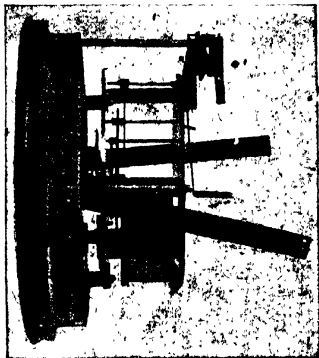

FIG. 57 — French Timepiece Movement.
**Eight-day French Timepieces.**—Fig. 57 shows the movement of one of these as fitted with the ordinary black marble or wood case. The method of holding in the case is peculiar to these clocks and consists of two straps of brass, shown in the photo. The movement is put into an opening in the front of the case and two long screws are passed through a metal rim forming the case back and draw the side straps up tight. This method permits the movement to be turned round slightly to set accurately in beat, and then screwed tight.
The pendulum suspension arrangement, shown well in Fig. 57, should all be taken apart, cleaned and polished. This is an ingenious arrangement, the regulation being accomplished from the dial of the clock with a watch key. By means of two small gear wheels a screw is revolved which shortens or lengthens the acting part of the pendulum suspension spring. This is designed so that approximately one complete turn of the square over the Fig. 12 on the dial makes a difference in time of one minute per day, and in regulating these clocks it is useful to remember this.
**Other kinds of French Pendulum Clocks.**—Circular movements similar to Fig. 57 are sometimes fitted into brass drum cases about 4 in. diameter and provided with little short pendulums of about 3 in. in length, fixed direct to the pallet arbors and having no crutches or suspension springs. These are known as "tic-tacs" and are a very unsatisfactory kind of clock, fortunately no longer made and passing rapidly out of use. No special directions need be given concerning them.